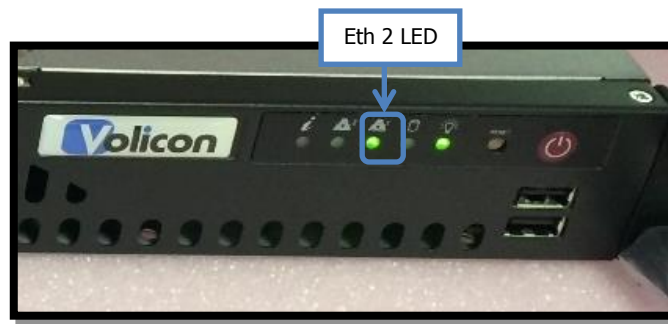

Figure 6.8. Right face of the Volicon Scout - Eth 2 LED indicator showing connection
- f. Now that the Scout Unit is on, verify the Ethernet connection by confirming that the Eth 2 LED on the front of the Volicon Scout is now lit up. See Figure 6.8 for reference.